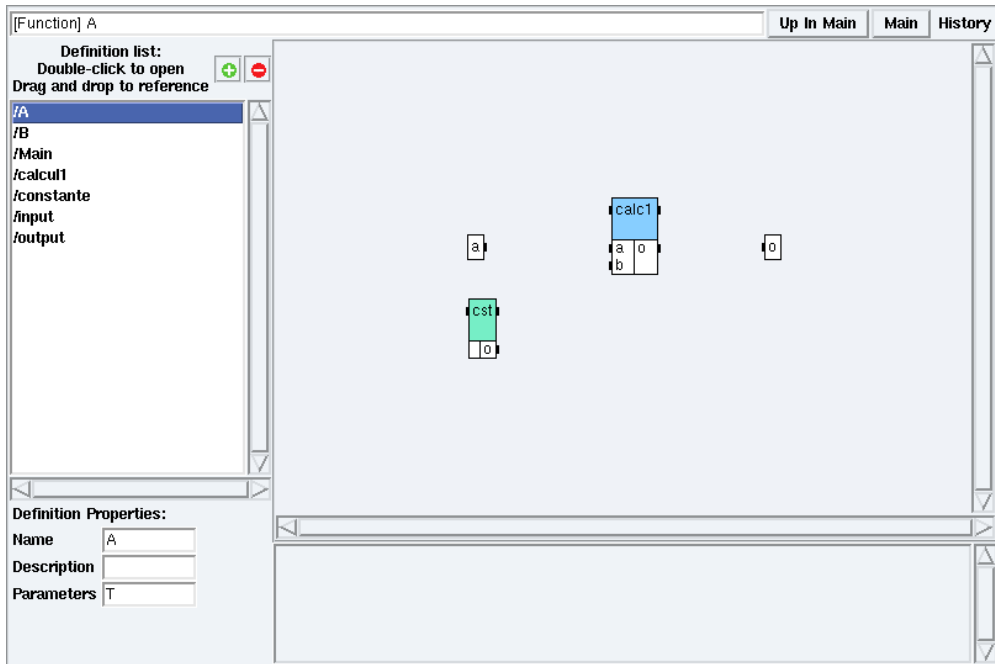

Figure 2.1: Parameters
- add a parameter name (*cf.* figure 2.1): Field **Parameters** → **T**.